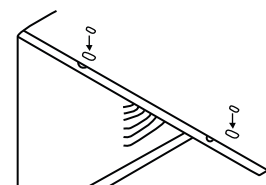

Fig.6
9. Add two foam inserts to holes in top of cabinet where shipping screws were removed from (see Fig. 6).
1. Attach foam gasket to top angle above holes as shown in Fig.6.